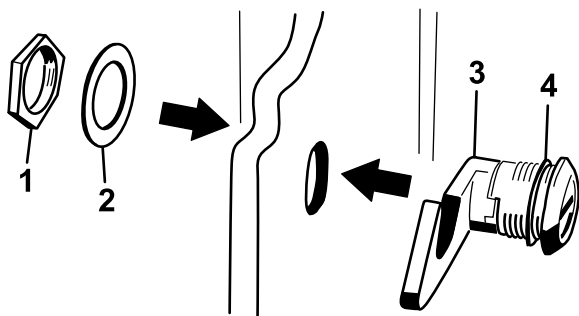

Figure 7
3. Remove the nut from the hood-latch assembly (Figure 7).
4. On the outside of the hood, insert the hook end of the latch through the hole in the hood and ensure that the rubber-sealing washer remains to the outer side of the hood (Figure 7).